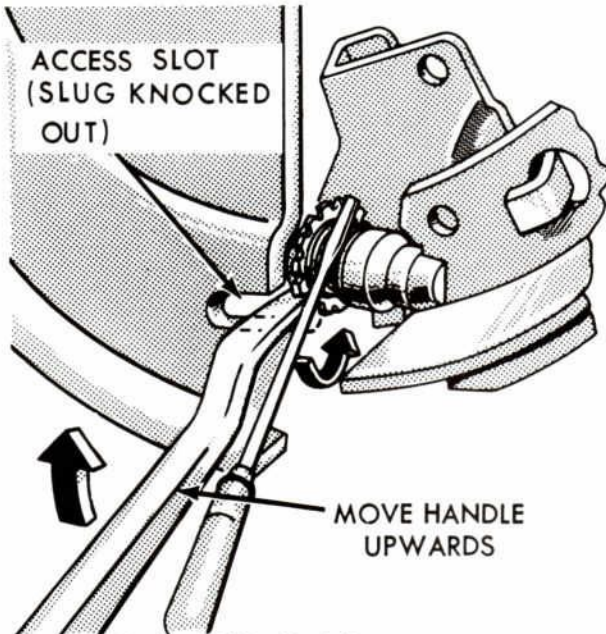

Figure 8—Backing Off Brake Adjustment
1. Remove the wheel and drum. Be careful not to burr, chip or damage the notches in the adjusting screw when backing off; otherwise the self-adjusting mechanism will not function properly. Figure 8. Wash all parts except the brake shoes in a cleaning fluid and dry with compressed air.